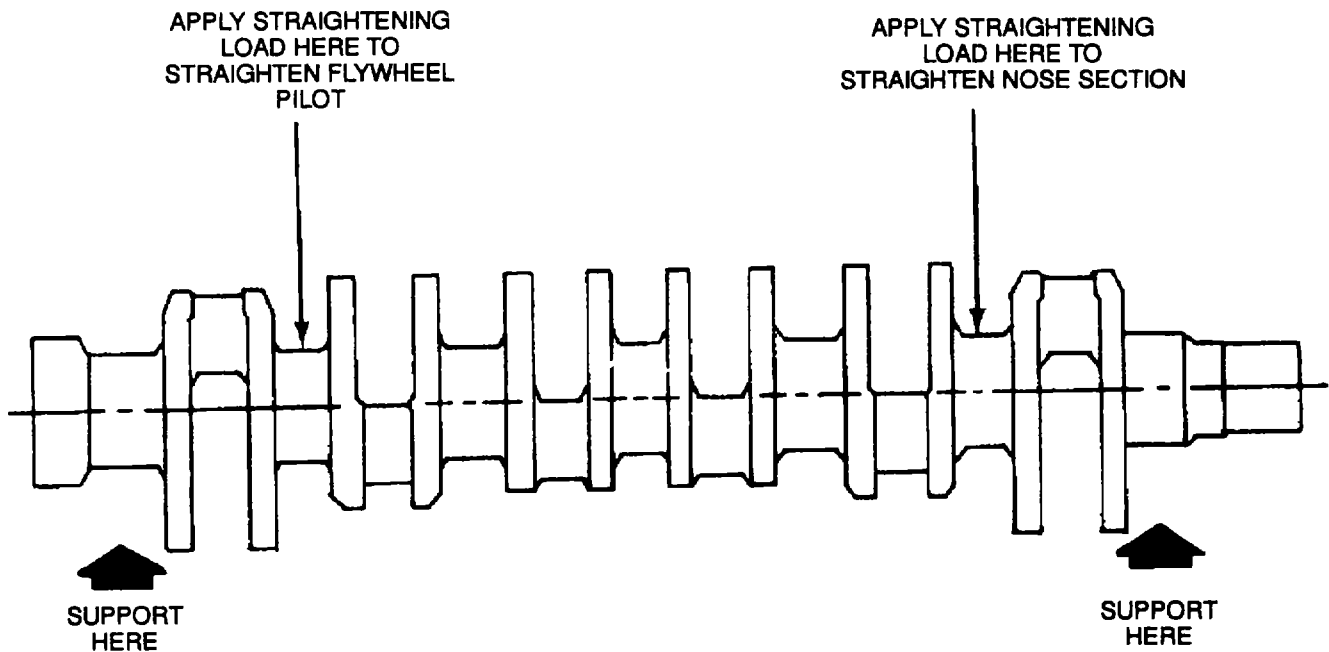

Figure 9-45. Straightening Nose Section and Flywheel Pilot Run-out
- (4) Crankshaft straightening may cause increased runout of the nose section and flywheel pilot. Excessive runout at these points may be corrected by applying the straightening load to No. 2 main journal to straighten the nose section runout, or No. 6 main journal to straighten the crankshaft pilot runout (Figure 9-45).
- (5) After straightening, the TIR of either the nose section or crankshaft pilot shall not exceed 0.001 inch (0.03 mm).